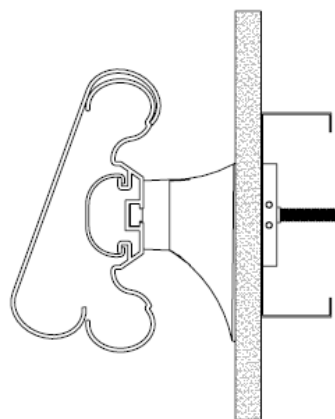

Figure 14
STEP 7. Select a section of the impact bumper; cut to length if required. Note: Be sure to leave a 1" gap at each end of the impact bumper where the handrail corners or ends. Place the impact bumper in the center of the retainer, then snap into place along the center of the retainer (see Figure 14).
STEP 8. Select the appropriate handrail cover, cut to length if required, place the top lip of the cover over the top of the retainer (see Figure 14). Starting at one end, using the palm of the hand, push the cover down over the bottom of the retainer.